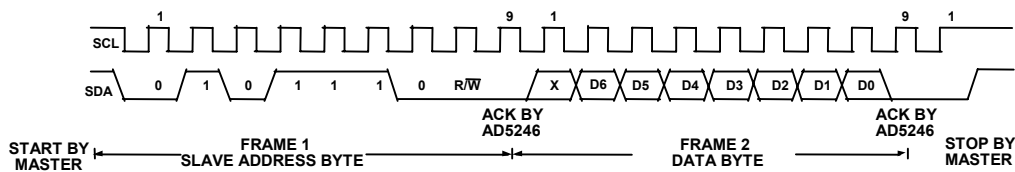
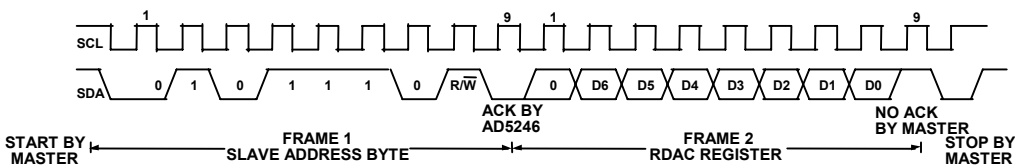

Figure 4. Writing to the RDAC Register
Figure 5. Reading Data from a Previously Selected RDAC Register in Write Mode
1. The master initiates data transfer by establishing a START condition, which is when a high-to-low transition on the SDA line occurs while SCL is high (see Figure 4). The following byte is the slave address byte, which consists of the 7-bit slave address followed by an R/W bit (this bit determines whether data will be read from or written to the slave device).
- In the read mode, after acknowledgment of the slave address byte, data is received over the serial bus in sequences of nine clock pulses (a slight difference with the write mode, where there are eight data bits followed by an acknowledge bit). Similarly, the transitions on the SDA line must occur during the low period of SCL and remain stable during the high period of SCL (see Figure 5).
- When all data bits have been read or written, a STOP condition is established by the master. A STOP condition is defined as a low-to-high transition on the SDA line while SCL is high. In write mode, the master will pull the SDA line high during the tenth clock pulse to establish a STOP condition (see Figure 4). In read mode, the master will issue a No Acknowledge for the ninth clock pulse (i.e., the SDA line remains high). The master will then bring the SDA line low before the tenth clock pulse which goes high to establish a STOP condition (see Figure 5).